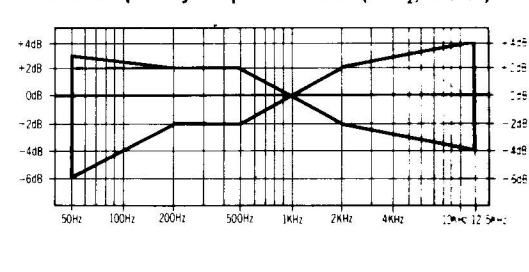

Fig. 14
8. Change test tape to CrO₂ reference blank test tape (QZZCRX), and record 1kHz, 50Hz, 100Hz, 200Hz, 500Hz, 4kHz, 8kHz, 10kHz and 12.5kHz signals. Then, playback the signals and check if the curve is within the limits shown in the overall frequency response chart for CrO₂ tapes (fig. 14).
9. Place UNIT into metal tape mode and change test tape to metal reference blank test tape (QZZCRZ), and record 1kHz, 50Hz, 100Hz, 200Hz, 500Hz, 4kHz, 8kHz, 10kHz and 12.5kHz signals. Then, playback the signals and check if the curve is within the limits shown in the overall frequency response chart for metal tapes (fig. 14).